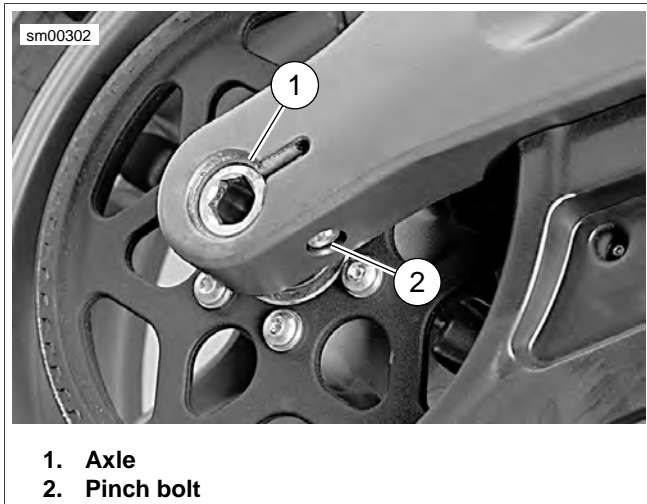

Figure 2-23. Rear Axle
3. See Figure 2-23. Loosen rear axle pinch fastener (2).
4. Loosen rear axle (1) approximately 15 rotations to allow partial tension to be removed from rear drive system.
7. See Figure 2-23. Tighten rear axle (1) to 23-27 ft-lbs (31.2-36.6 Nm), back off two full turns and then retighten to 48-52 ft-lbs (65-70.5 Nm).
8. Tighten pinch fastener (2) on right side of swingarm to 40-45 ft-lbs (54-61 Nm).